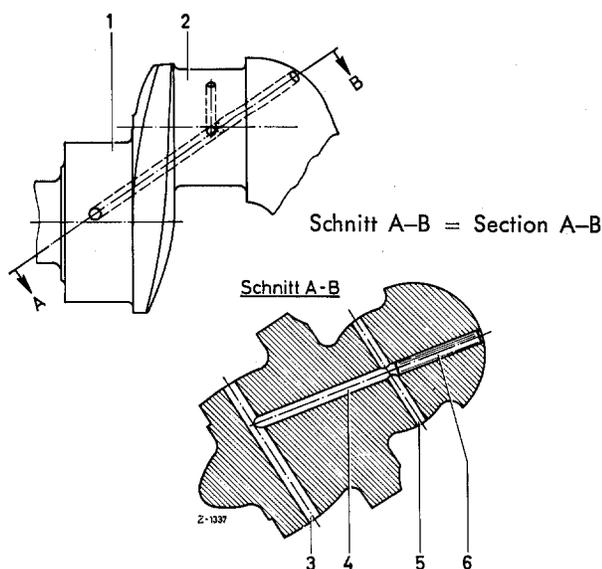

Figure 03-6/4
Now insert a suitable steel bolt into the bore (5), only then knock in the screw plug (6) and caulk (see Figure 03-6/4). Again remove the steel bolt from the bore (5) and check bore for free passage, if necessary, re-drill the bore.